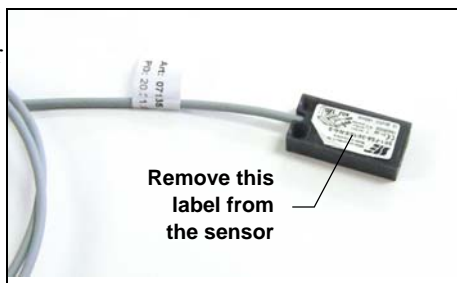

Figure F-1. Sensor with Label
1. Remove the label from the back of the liquid level sensor (see Figure F-1).